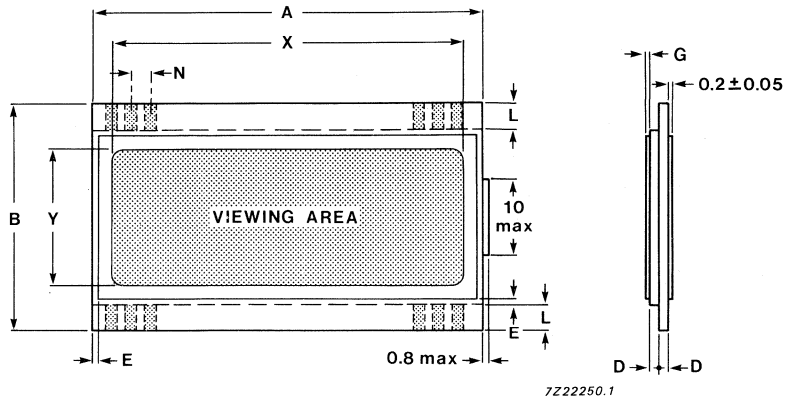
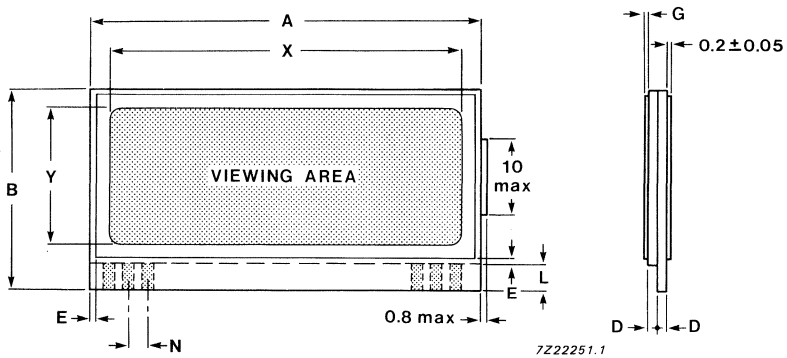
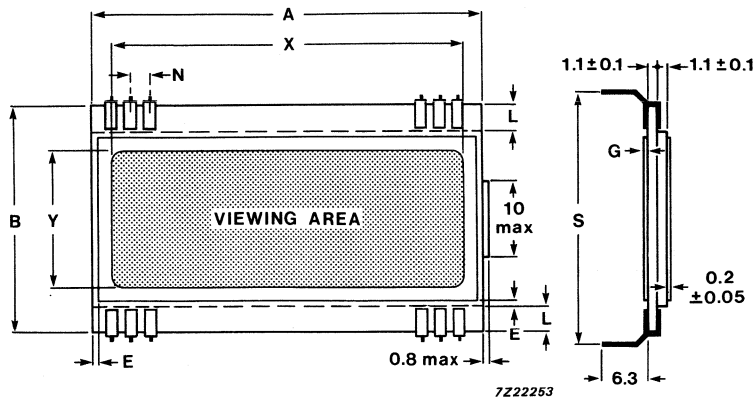

Fig.28 Version a, for conductive rubber connection, contacts top and bottom.
Fig.29 Version b, for conductive rubber connection, contacts bottom only.
Fig.30 Version c, with fixed pins, contacts top and bottom.
- for elastomer connection (see Fig.28 and Fig.29)
- with fixed pins (see Fig.30)
Table 7 Dimensions for **Custom Design** (see Fig.28, Fig.29 and Fig.30)